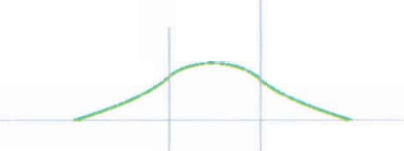

fig. 2
Below is an explanation of how bending moments and shearing forces are continuously changing. As an example a rectangular vessel is used which is divided into three compartments (A, B and C). In figures 1, 2 and 3 both outer compartments are filled with cargo. In fig. 4 and 5 the inner compartment (B) is filled with cargo. In fig. 2 and 5 the vessel is on a wave crest and in fig. 3 and 6 the vessel is in a trough. The upward pressures keep changing because the wave is moving along the barge. The downward forces, however, stay the same. The up and downward forces per compartment are shown as vectors.